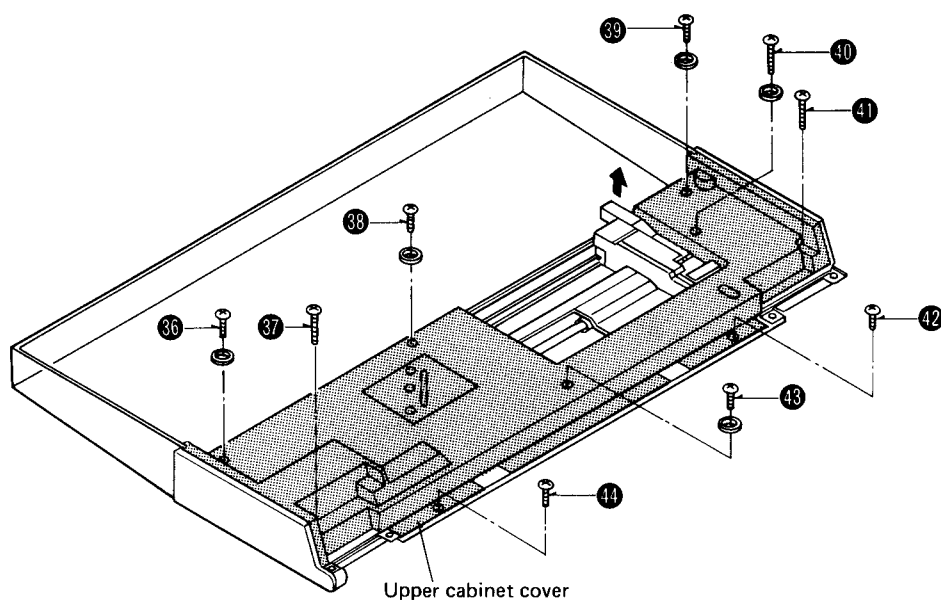

Fig. 9
4. Completely open the dust cover; remove the upper cabinet cover setscrews ㉘ ~ ㉚; and remove the upper cabinet cover while pulling the tonearm in the direction of the arrow. (Fig. 9)